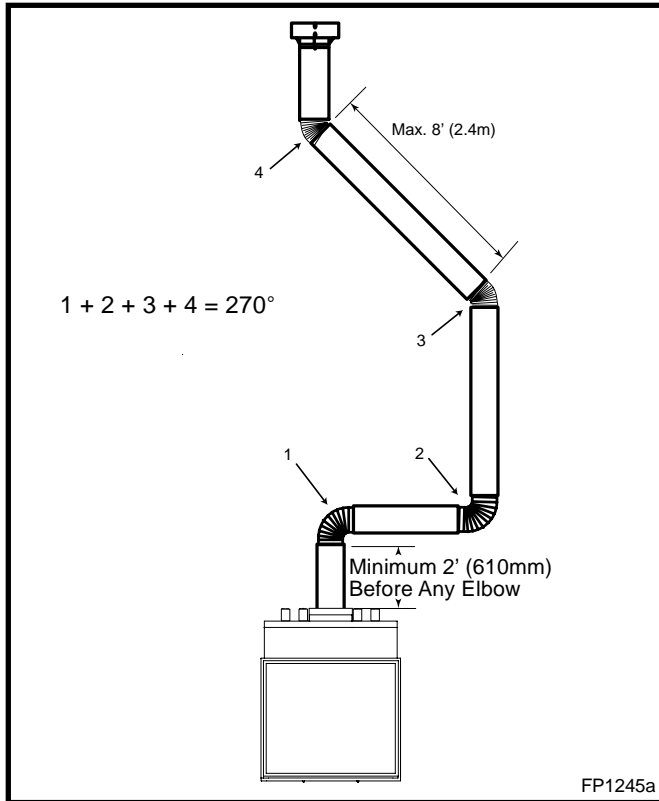

Fig. 30 Typical offset application.
- Up to two (2) 30° or 45° elbows may be used within the horizontal run. For each 30° or 45° elbow used on the horizontal level the maximum horizontal length must be reduced by 18" (457mm).
- Two sets of 30° or 45° elbows offsets within these vertical installations. From 0 to a maximum of 8' (2.4m) of vent pipe can be used between elbows. (Fig. 30)